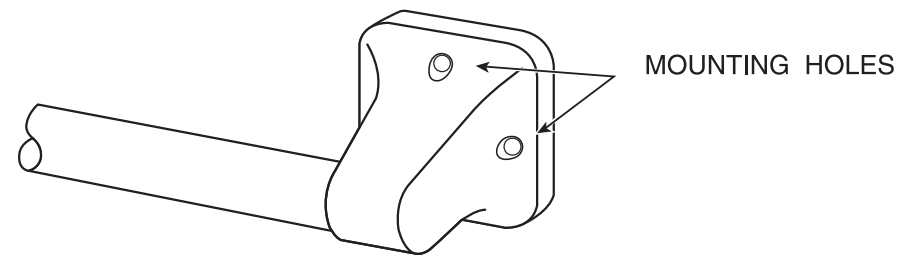

Figure 1
4. With a pencil, mark the centers of the mounting hole positions on one end (see Figure 1). These are the points where you will later drill pilot holes for putting in the screws. If installing over ceramic tiles, place masking tape on the mounting areas before marking the hole locations to prevent the carbide tip drill bit from sliding across the tile.